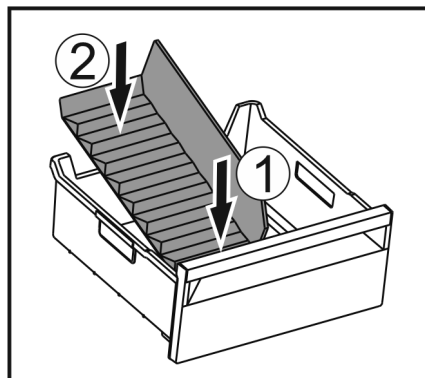

Fig. 100
- Insert the front part of the ice compartment divider. Fig. 100 (1)
- Lower the rear part of the ice compartment divider to the drawer bottom. Fig. 100 (2)